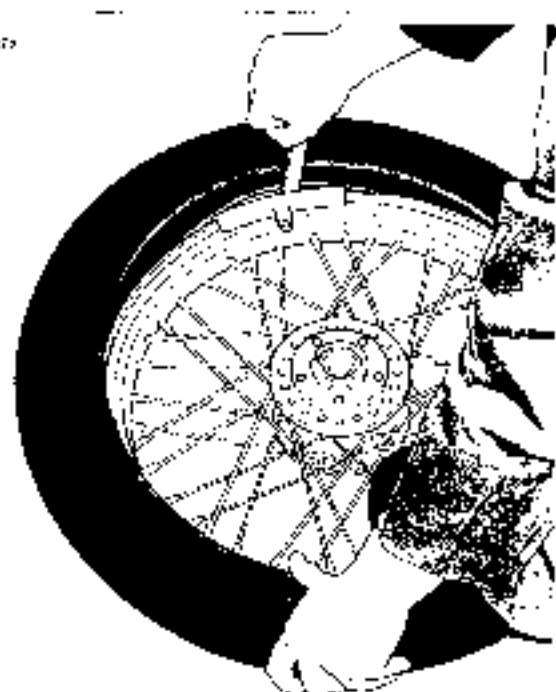

Figure 2-57. Starting Bead on Rim
3. See Figure 2-57. Starting at the valve stem, start the first bead into the rim well. Work the bead on as far as possible by hand. Use the tire tool to pry the remaining bead over the rim flange. If the tire has a colored dot on sidewall, this is a balance mark and should be located next to valve stem hub.